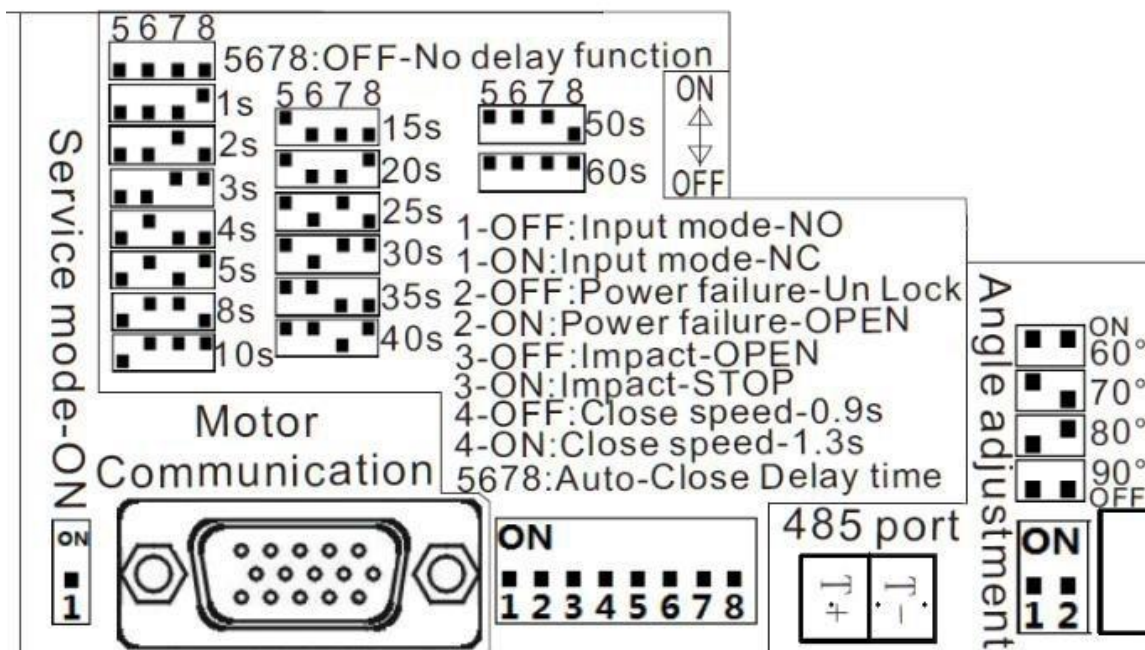

Fig. 5.2
5. The DIP Switch 5, 6, 7, 8 are used for delaying automatic closing of the boom. The delay time for automatic closing of the boom can be set are 1s, 2s, 3s, 4s, 5s, 8s, 10s, 15s, 20s, 25s, 30s, 35s, 40s, 50s, 60s as shown in **Fig. 5.2**.